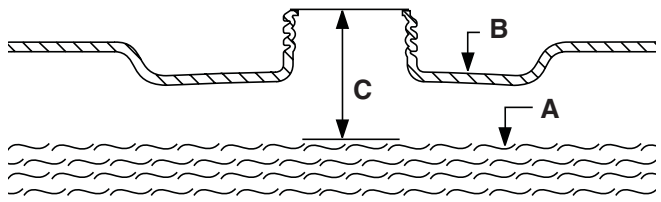

Figure 2 — Fuel Expansion
2. Slowly add unleaded gasoline (A) to fuel tank (B). Be careful not to overfill. Allow at least 1.5" (4 cm) of tank space (C) for fuel expansion, as shown in Figure 2.